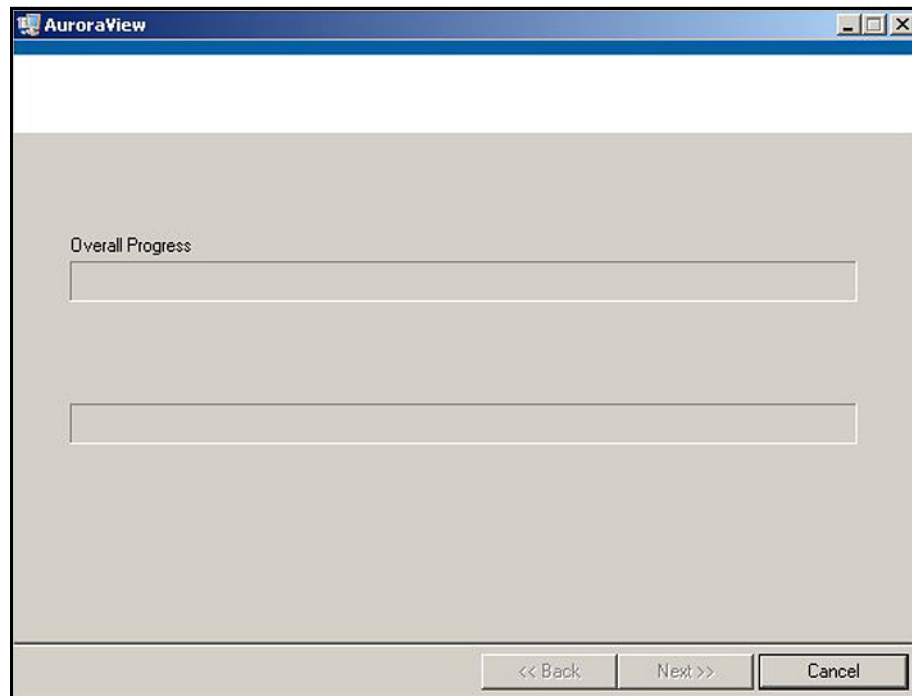

Figure 52: Overall Progress
8. During installation, the screen shown in *Figure 52* below appears.